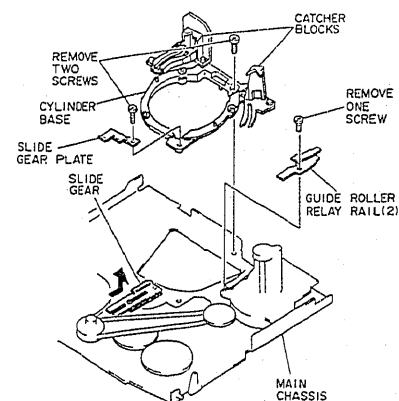

Fig. 2-58
- 1) Remove two (2) screws and remove the cylinder base and slide gear plate from the main chassis. (See Fig. 2-58)
(2) Guide Roller Relay Rail (2)
- 2) Remove one (1) screw and remove the guide roller relay rail (2) from the main chassis. (See Fig. 2-58)
(3) Slide Gear
- 2) Remove the slide gear in the direction of the arrow from the main chassis. (See Fig. 2-58)